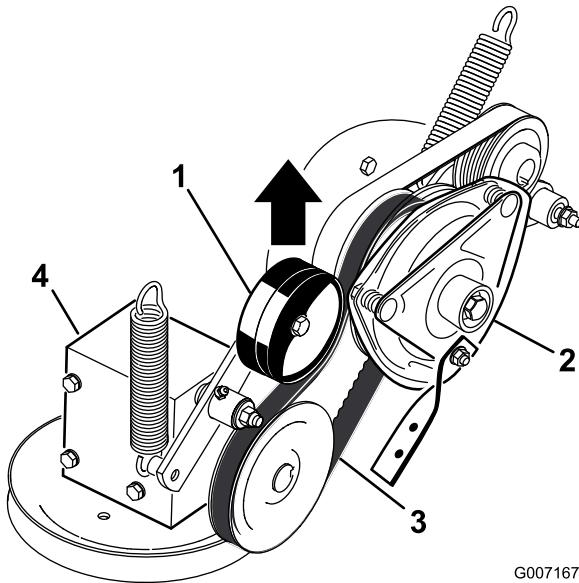

Figure 57
- Pull up on the spring loaded idler pulley for the PTO drive belt and remove the belt from the clutch pulley (Figure 57).
- Pull up on the spring loaded idler for the PTO drive belt and install it onto the clutch pulley (Figure 57).